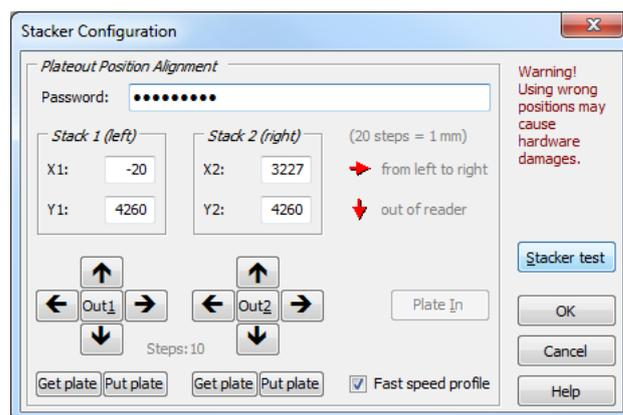

Figure 17
6. Reset the stacker speed by checking 'Fast speed profile' check box (see Figure 17).